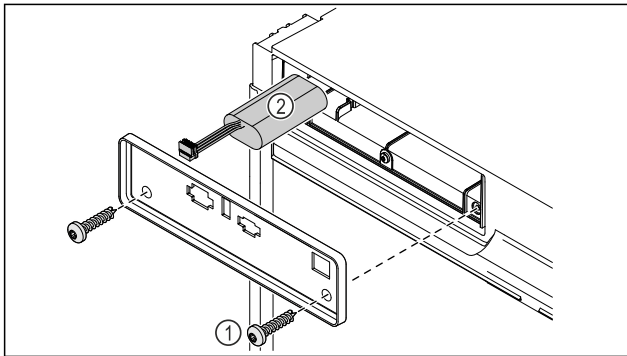

Fig. 228
- ▶ Unscrew the screws and remove the cover on the back of the appliance Fig. 228 (1).
- ▶ Disconnect and remove the battery Fig. 228 (2).